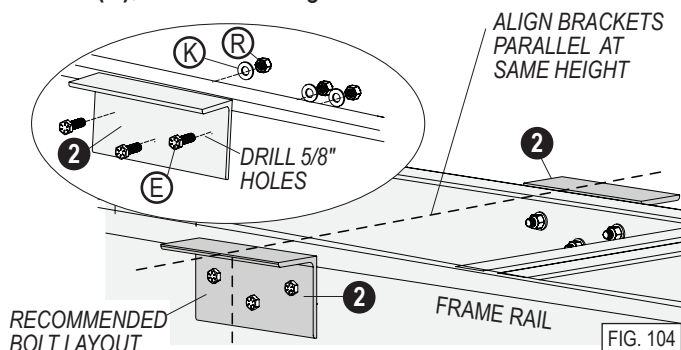

FIG. 104
- On each side of the gantry, drill through the **standard mounting bracket (2)** and the chassis **frame rail**. Ensure the two brackets are parallel, level, and at the same height.
- Drill 5/8-inch holes and fasten each bracket with three grade 8 **hex bolts (E)**, **washers (K)**, and **nylon lock nuts (R)**, as shown in Figure 104.